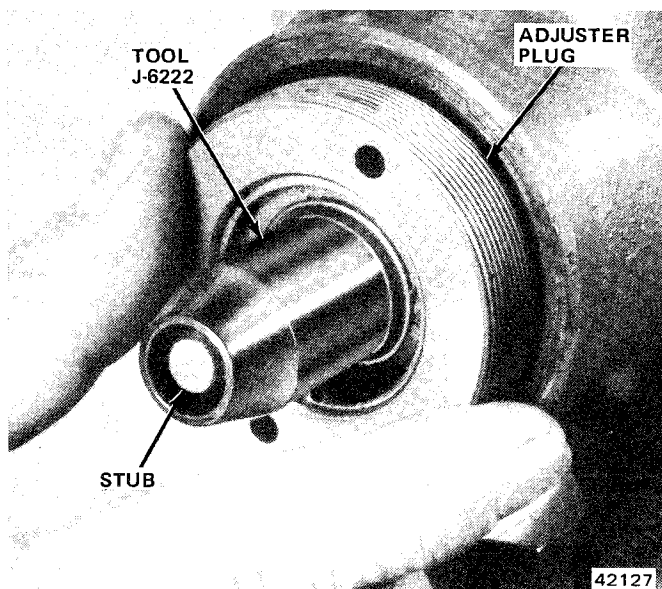

Fig. 2L-40 Adjuster Plug Installation
(1) Seat adjuster plug in housing using Spanner Wrench J-7624 (fig. 2L-16). Approximately 20 foot-pounds torque is required to seat plug.